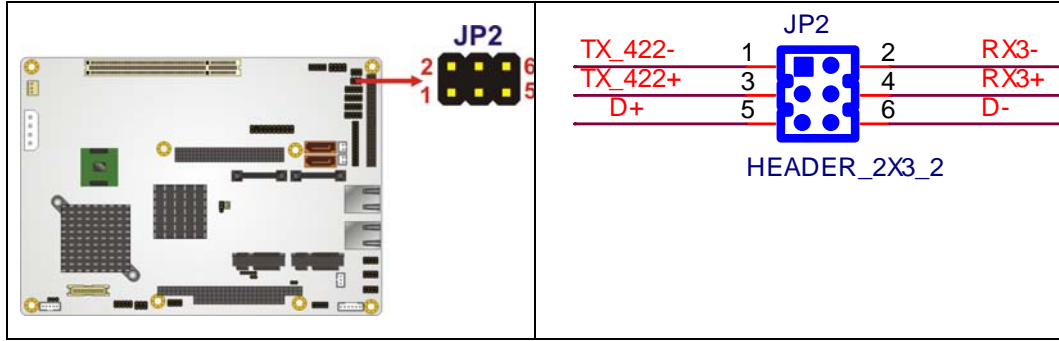

Figure 4-21: COM 3 RS-422/485 Connector Pinout Locations
- CN Location:** See **Figure 4-21**